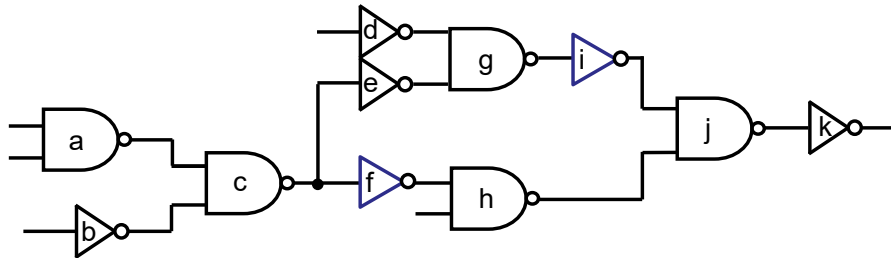
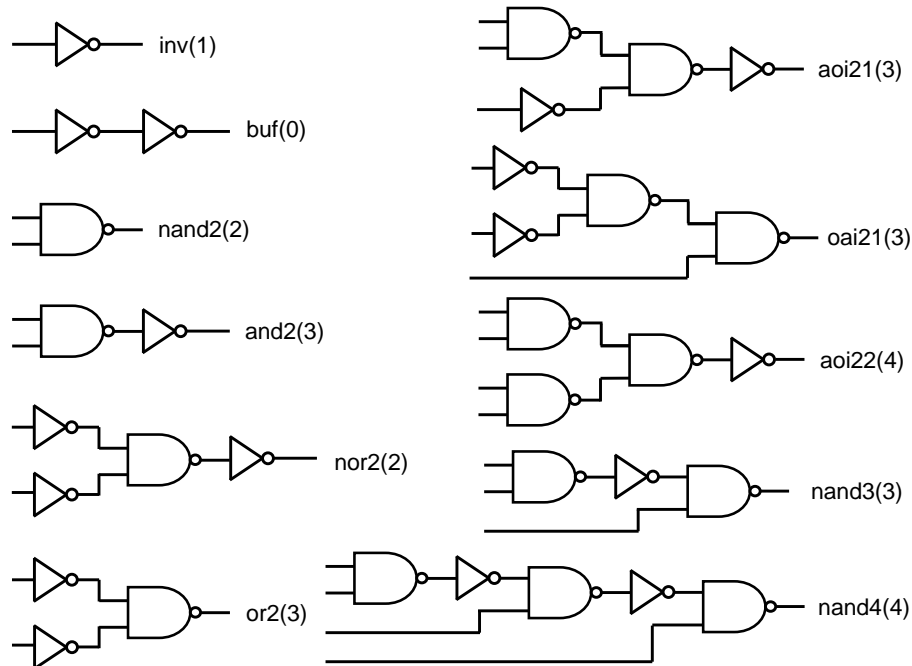

Fig. 1. Subject graph under technology mapping.
Fig. 2. Pattern graphs.
- (a) (8%) Given the subject graph of Figure 1, perform SAT based technology mapping to find a legal mapping solution using the library of Figure 2. Show the CNF formula and give a legal mapping solution.
- (b) (8%) Given the subject graph of Figure 1, explore different tree partitioning options of the subject graph and perform the DAGON (dynamic programming) algorithm on each tree to find an area-minimum mapping solution using the library of Figure 2 assuming the cost specified in Figure 2 corresponds to gate area. Show all intermediate costs and the final optimum covering.
- (c) (8%) Find a minimum-area technology mapping for the subject graph of Figure 1 without tree decomposition.